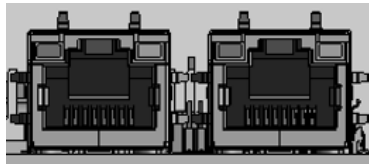

Figure 3-29: LAN Location
- CN Location:** See Figure 3-29